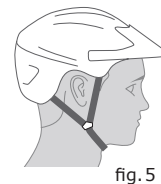

fig. 5
**Helmet use [fig. 5]:** Always wear a properly fitted helmet that is certified as meeting safety regulations when riding your e-bike. Some manufacturers may offer helmets that are specifically designed for use with e-bikes.